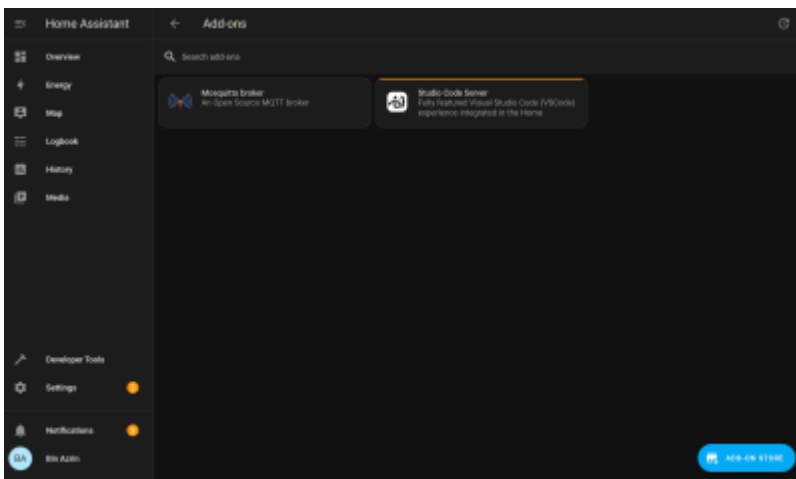

Figure 21: Downloading Mosquito broker in Add-Ons, source: own image – Ainul Danish
- **MQTT:** When Home Assistant installed and running, proceeded with was MQTT. It acts as the medium to send data from the publisher (ESP32 cam water meter) to the subscriber (Home Assistant). This enables MQTT to send data reading of the water meter. This can be achieved by a central message broker, acting as the server that manages the communication between devices. To acquire the broker, the Mosquito broker was downloaded in “Add-Ons” (Fig 21).